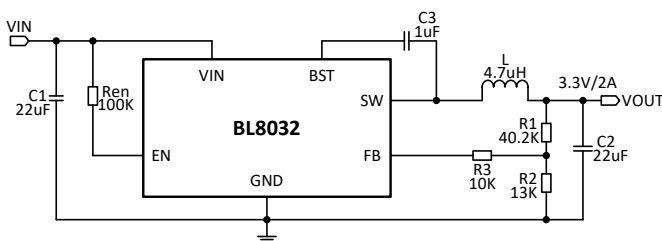
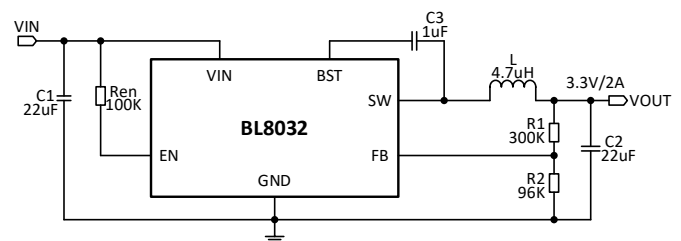

Figure 1
Figure 2
- 2) The resistance R3 in Figure 1 makes the loop more stable. If it isn't used, the resistance R1 and R2 should be adjusted(See Figure 2.). The value of R1 is recommended to be about 300KΩ.